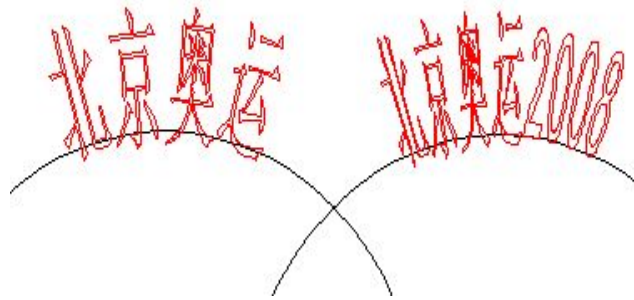

Figure 4-13 Comparison of Two Texts (Limiting Angle is 45 degrees.)
**Angle range limit:** When checked, no matter how much chars that users type in, the text will be limited in the angle range. (Figure 4-13)